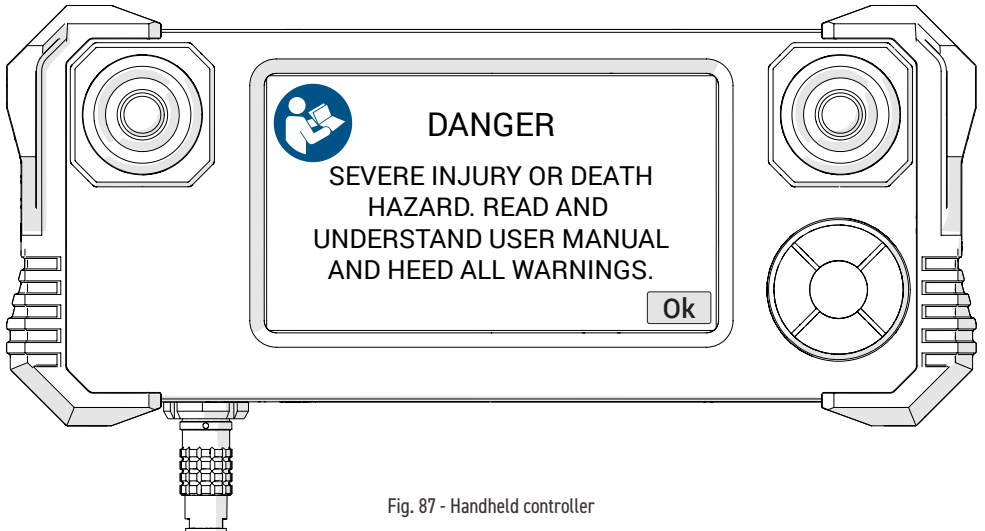

Fig. 87 - Handheld controller
5. A warning message will display on the handheld controller when power has been activated (Fig. 87). Once the dangers of using the **SKOOT•X** are recognized and understood by reading this user manual, touch **Ok** to acknowledge the warning.